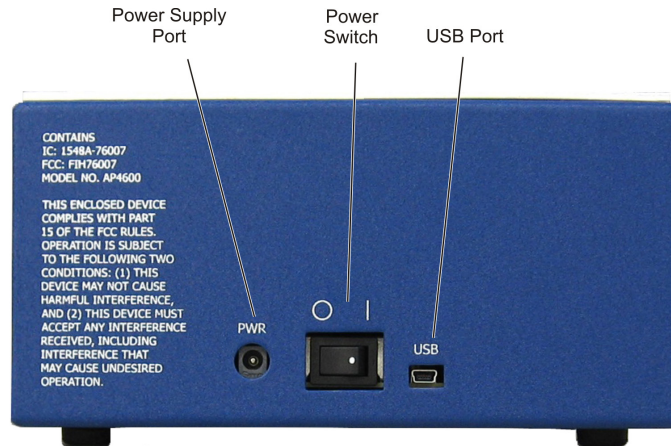

Figure 1 Ports on Rear Panel of AP4600 Tag Programmer
1. Place the tag programmer on a flat surface. Figure 1 shows the ports on the rear panel of the programmer.